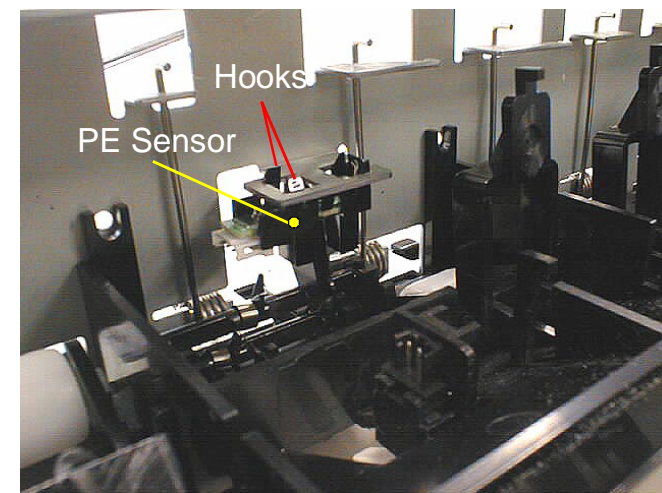

Figure 4-62. PE Sensor Removal
5. Pick up 2 hooks securing "PE Sensor" to the frame, and remove "PE Sensor". (Refer to Figure4-62)